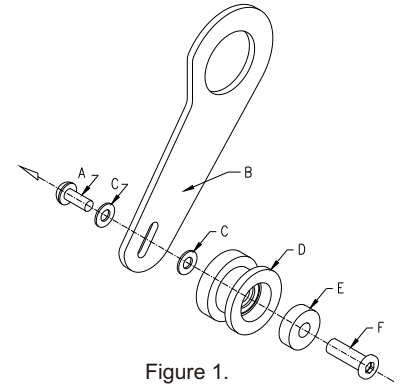

Figure 1.
5. Mount the **STINGER**(B Figure 1) loosely to the frame using the driveside **BB cup**. The **STINGER** should be sandwiched between the flange of the **BB** and the face of the frames **BB shell**. See Figure 4.
6. Rotate the **STINGER** so that the **ROLLER**(D Figure 1.) between the **7 and 8 O'clock position**. Some frames have dropped chainstays that may require you to mount the guide at a different angle.